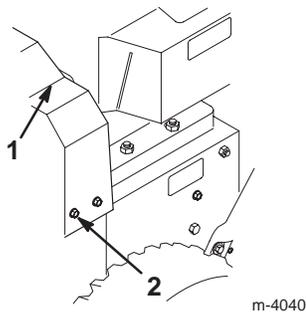

Figure 29
- Remove the 3 bolts that hold the belt cover in place and set the cover aside (Fig. 29).
3. Remove the 3 bolts that hold the belt cover in place and set the cover aside (Fig. 29).